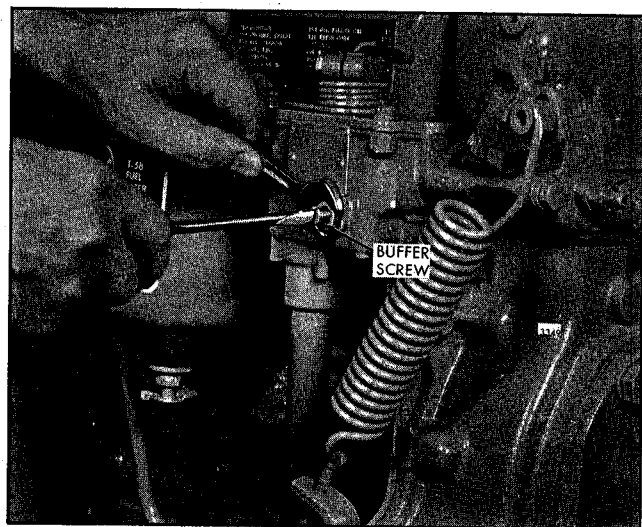

Fig. 13 - Adjusting Buffer Screw
1. Loosen the lock nut and back the buffer screw (Fig. 13) out approximately 5/8".
1. With the engine running at idle speed, loosen the lock nut and turn the buffer screw in (Fig. 13) so that it contacts the differential lever as lightly as possible and still eliminates engine roll.